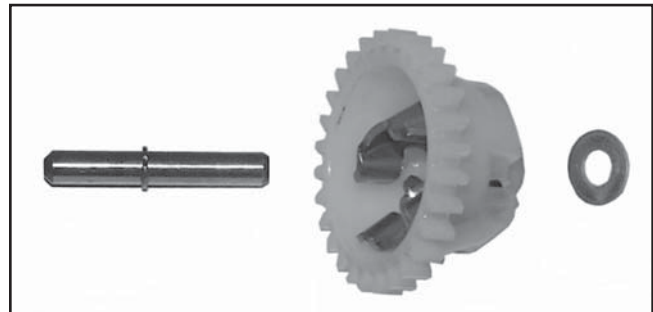

Figure 11-6. Governor Gear Assembly.
- Install the governor shaft through the gear and add the thrust washer to the shaft. See Figures 11-6 and 11-7.
- Install governor gear assembly into the crankcase using a press, or a drift with light taps, until the tip of the shaft is **78.862 mm (3.105 in.)** below the machined gasket surface of the crankcase. See Figures 11-6 and 11-7. Install the washer and cup on the shaft.